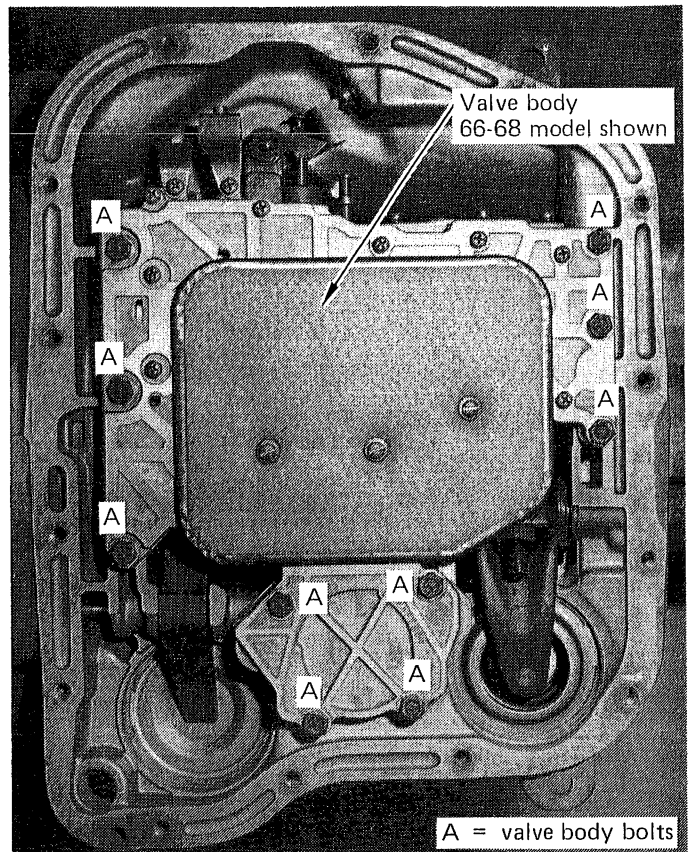
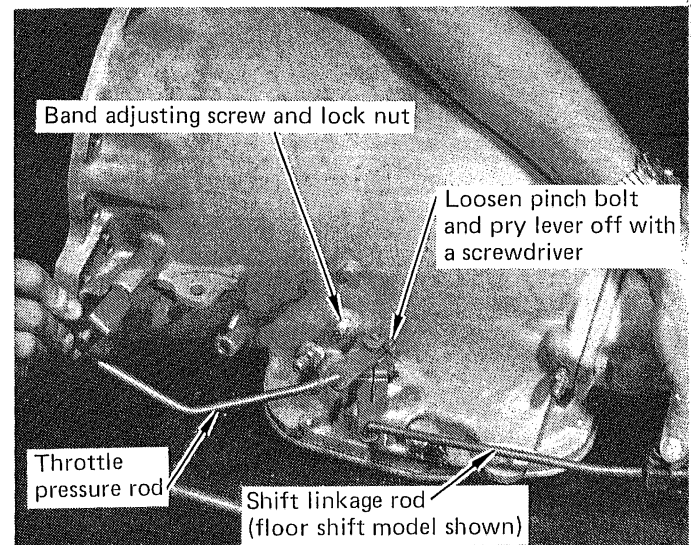

FIGURE 1
FIGURE 2
STEP 2. The valve body will now be exposed. (See Fig. 1) It is held in place by ten 1/4-20 bolts. Before the valve body can be removed you must disconnect shift and throttle linkage. (See Fig. 2) Throttle linkage is located on the left (driver) side of the case just above the valve body. The lever is attached to the throttle shaft and held in place with a pinch bolt. Use a 7/16" wrench or socket and loosen the bolt but do not remove it. Use screwdriver to pry the lever up and off the shaft. Place transmission shift lever in low gear. Loosen the pinch bolt and pry the selector lever off the larger manual lever shaft. Let the two levers hang free.
STEP 4. Adjust front band. Loosen locknut. (See Fig. 2) Tighten band adjusting screw to 72-in. lbs. (snug). Then back off adjusting screw two full turns. Hold band adjusting screw and tighten 3/4" jam nut securely.